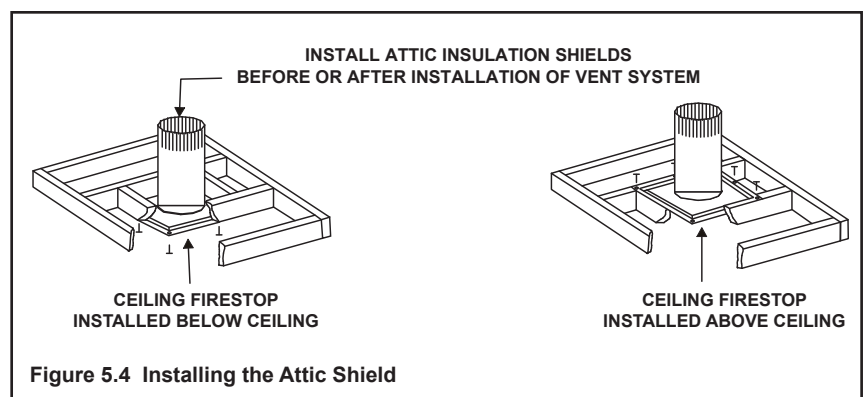

Figure 5.4 Installing the Attic Shield
- The ceiling firestop may be installed above or below the ceiling joists when installed with an attic insulation shield. It must be under joists between floors that are not insulated. See Figure 5.4.